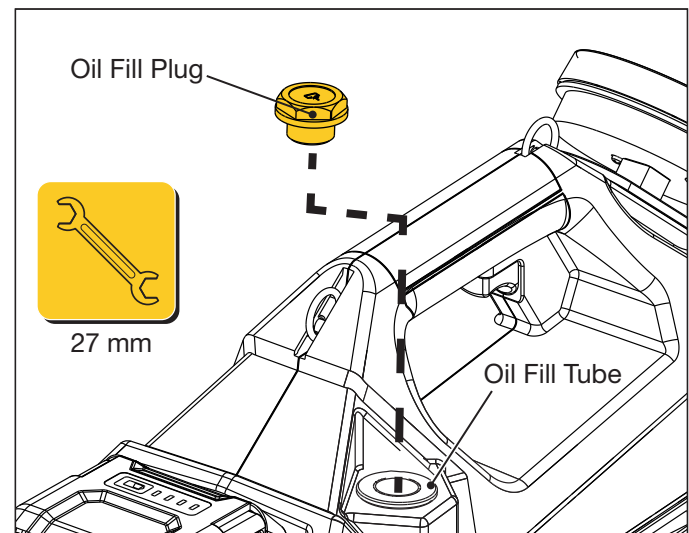

Figure 12: Oil Fill Location
2. Turn off the pump power switch (O).
4. Remove the oil fill plug from the fill opening. Use a 27 mm wrench. See Figure 12.
2. Place the pump on a level work surface. Be sure the pump power switch is in the OFF (O) position.
3. Remove the oil fill plug from the fill opening. Use a 27 mm wrench. See Figure 12.